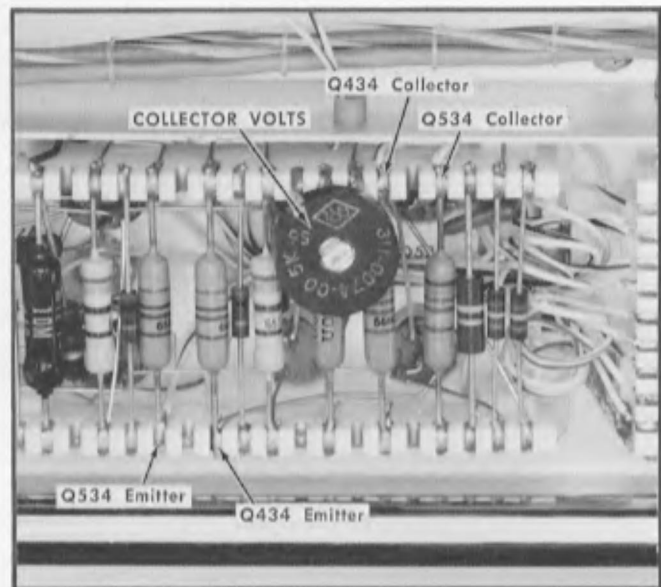

Fig. 6-10. Location of test points for steps 5 and 6.
- d. Connect the DC voltmeter common lead to the collector of Q434 (Fig. 6-10).
- e. Connect the DC voltmeter positive lead to the collector of Q534 (Fig. 6-10).
c. Connect the voltmeter common lead to the collector of Q434 (Fig. 6-10).
e. Adjust COLLECTOR VOLTS ADJ, Fig. 6-10, for 7 volts on the voltmeter.